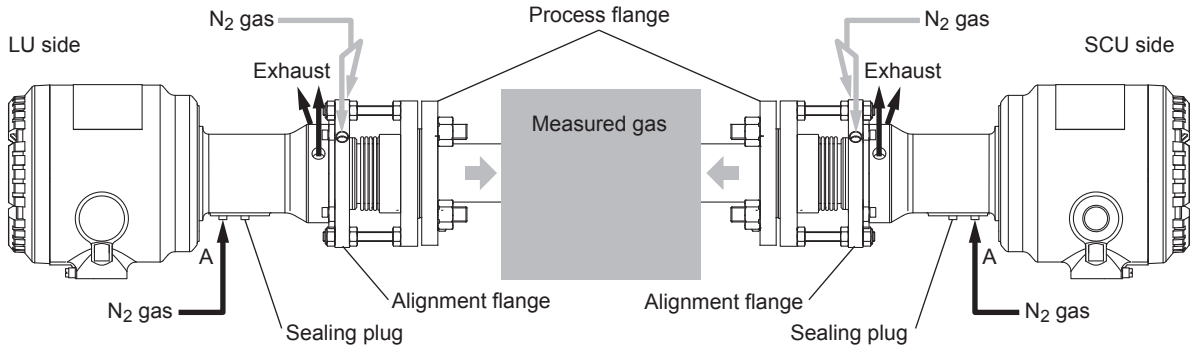

Figure 3.22 Piping for in-situ installation when not using the validation function
If the installation into the process is in situ and the validation function is used, connect the piping as shown in Figure 3.22. For analyzer internal purge, feed nitrogen gas through purge port A in Figure 3.22 for both the LU and SCU. For the SCU, since check gas needs to be fed during validation, connect the piping with a three-way valve so that the gas can be switched between nitrogen gas and check gas. For process window purge, feed nitrogen gas through the purge port of the alignment flange in the same manner as “(1) When using the validation function.”